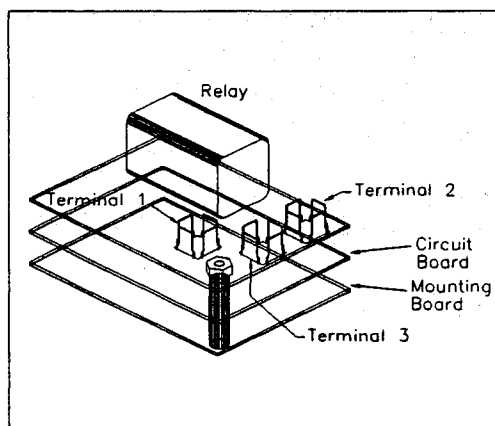

Figure 3-21
- a) Measure AC input voltage at 1/4" spade connectors on timer (see figure 3-21, terminals 1 and 2).
12. Measure AC output voltage at timer (see figure 3-21, terminals 2 and 3).